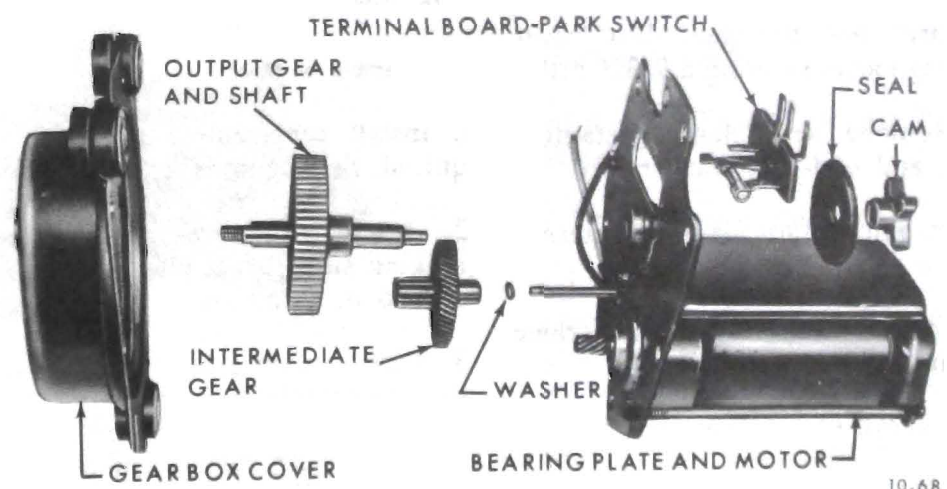

Figure 10-12 - Gear Train and Terminal Board - Exploded View
1. Install new terminal board-park switch assembly, or gear train as required. See figure 10-12.